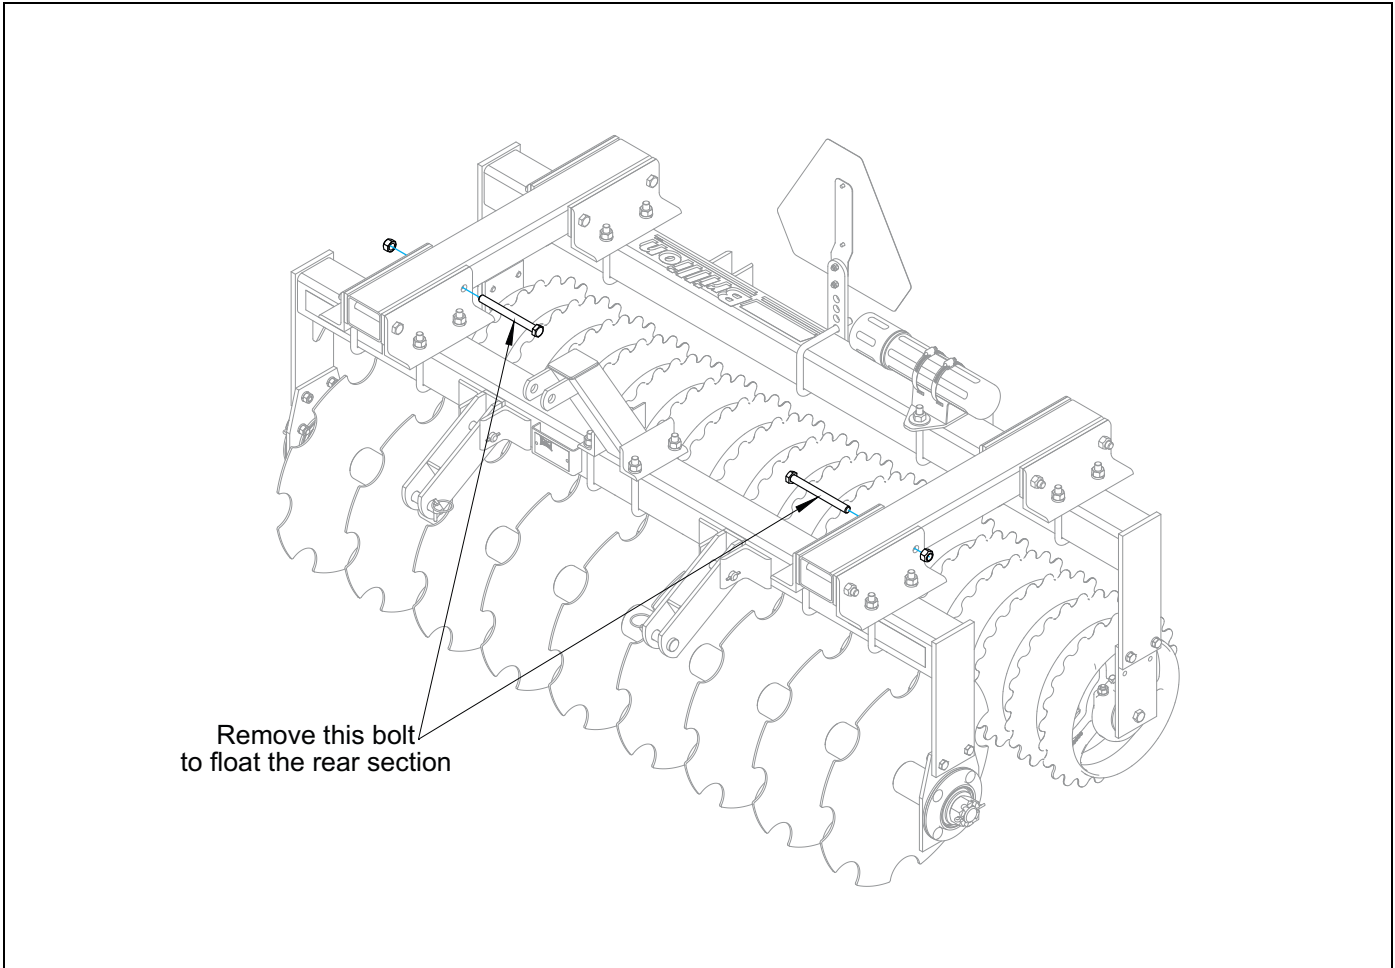

Figure 1-6: Floating Rear Roller
To move the lower hitch mounting brackets loosen the 5/8-11 U-Bolts, Lock Washers and Nuts. Position the brackets as shown in **Figure 1-6**. Re-tighten hardware. See “**General Torque Specifications**” on **page 2-1**.
The Mulch-Tucker can be reversed so that the Notched Roller Assembly is in the front and the Coulter Assembly is in the rear. This can be achieved by reversing the hitch or reversing the Coulter and Roller Assemblies. See Figures 1-6, 1-7 and 1-8.
3. Relocate the bolt that will allow the rear Coulter Assembly to float. The Rear Front Bolt from each Tube that connects the Front and Rear Frames should be removed. (This is needed only if rear section is to float.) See Figure 1-6.
6. Relocate the bolt that will allow the rear Coulter Assembly to float. The Rear Front Bolt from each Tube that connects the Front and Rear Frames should be removed. (This is needed only if rear section is to float.) **See Figure 1-6.**